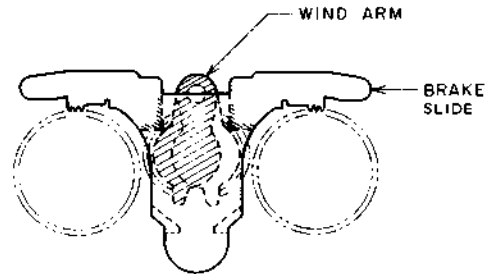

Fig. 5-7
- The slide brake at the middle position (Refer to Fig. 5-7)